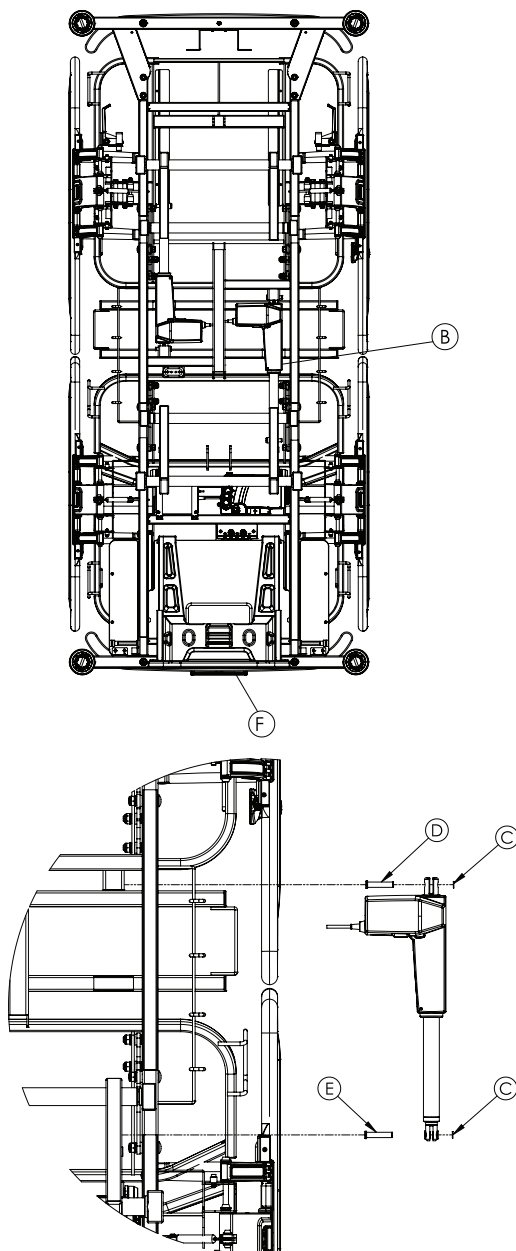

Figure 5: Foot end lift actuator
2. Support the foot end litter cross brace (F) to support the foot end litter (Figure 5 on page 51).
8. Using snap ring pliers, remove and discard the retaining ring (C) on each clevis pin (Figure 5 on page 51).
9. Using one hand, support the foot end lift actuator and remove the foot end clevis pin (E) then allow the foot end lift actuator (B) to pivot down (Figure 5 on page 51).
10. Using one hand, support the foot end lift actuator and remove the head end clevis pin (D) (Figure 5 on page 51).